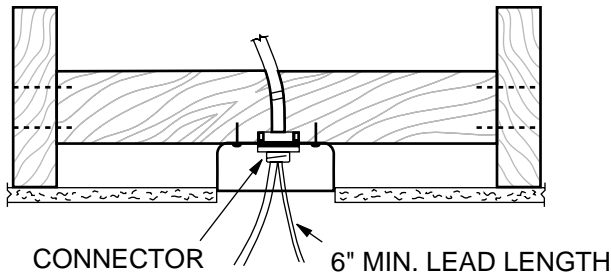

FIGURE 3
- B. Bring electrical cable into the outlet box and attach with an approved connector. Make certain that wiring meets all national and local electrical codes. Wire leads should extend at least 6" beyond outlet box for ease in making connections. See Figure 3.